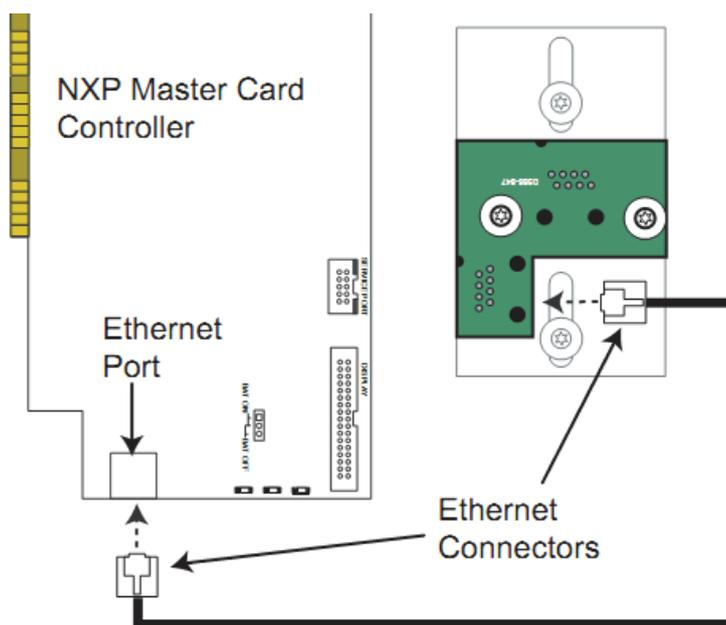

Figure 4 – Connecting the CPU and download card Ethernet ports
7. Connect the 4100ES's CPU card's Ethernet port to the Download Ethernet port as shown in Figure 4.
- Connect one end of the Ethernet cable to the Ethernet download card. Connect the other end of the cable to the Master Controller card's Ethernet port as shown in Figure 4.
- Connect one end of the Ethernet cable to the Ethernet download card. Connect the other end of the cable to the Master CPU card's Ethernet port as shown in Figure 4.